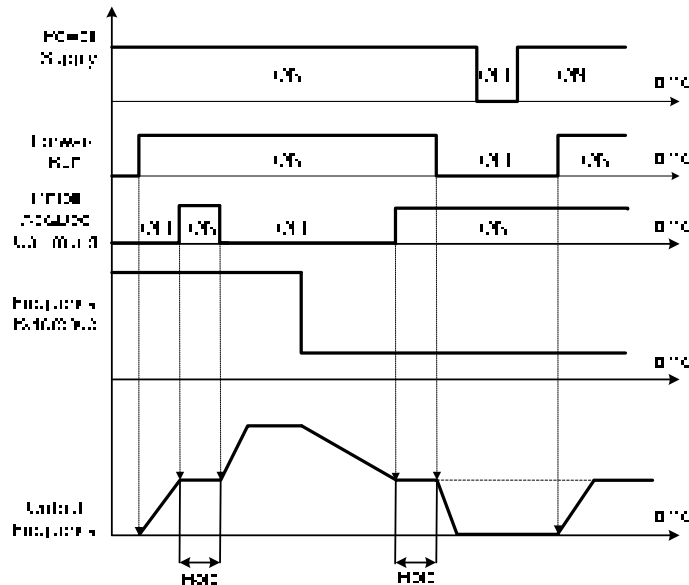

Figure 4.3.21 Inhibit acceleration / deceleration command operation
- Operation of inhibit Acceleration/deceleration function, please refer figure 4.3.21 °